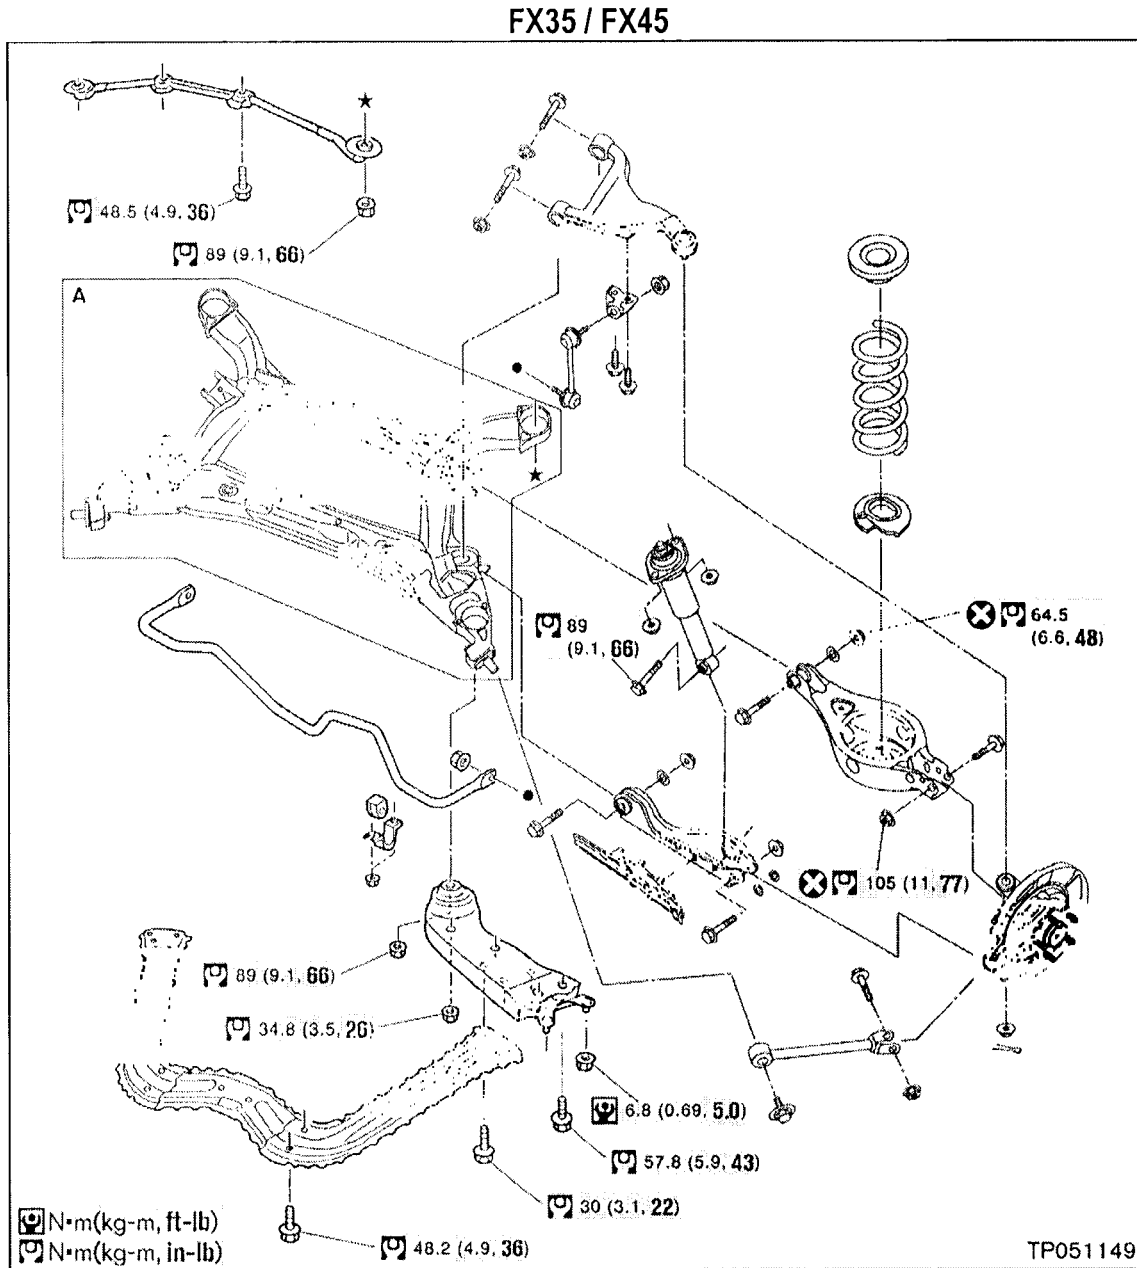

Figure 34
- All highlighted suspension fasteners (see Figure 34) are tightened to the proper torque specification.